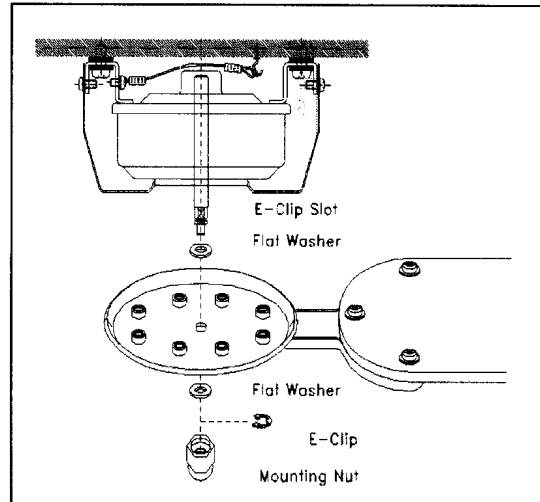

Figure 6
- Place one flat washer into the shaft of the fan motor. See Figure 6